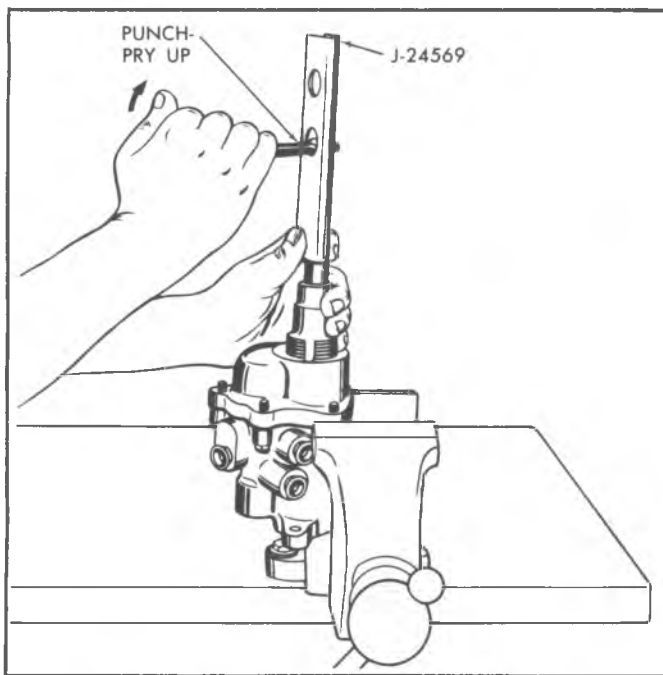

Fig. 5--Removing Booster Pedal Rod (Typical)
3. Place Tool J-24569 around the pedal rod and resting on the input rod end as shown in Figure 5.